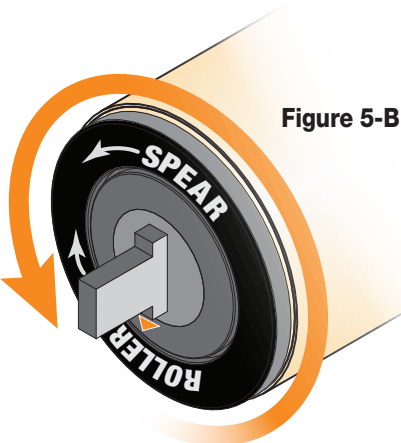

Figure 5-B
6. Hold roller with arrow pointing down, and use pliers to rotate the spear in a counter-clockwise direction (Fig. 5-C). The rotation will "lock" at each revolution by rotating the spear just beyond one full revolution, then, allowing it to slowly unwind until it stops at the point where the triangular shaped arrow is again pointing downward. Repeat this until the mechanism has 3-5 pre-rotations.